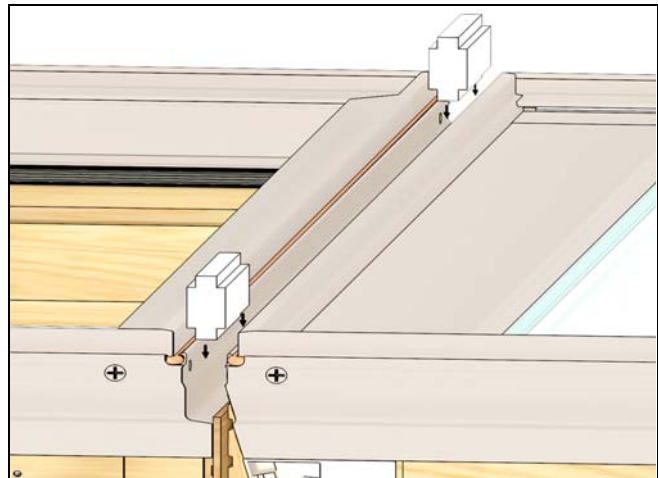

Figure 19
7. Cut two 3" (76) blocks of the horizontal mull foam filler and place in mull cavity. Foam filler should be flush with interior edges of accessory kerf. See Figure 19.